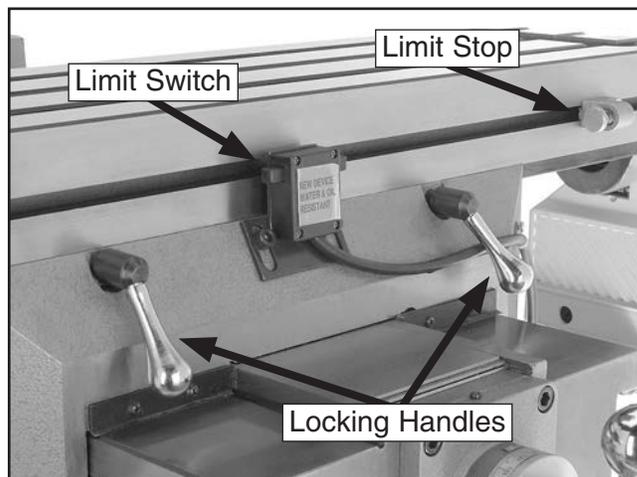

Figure 18. X-axis locking handles, limit stops, and limit switch.
1. Loosen the X-axis locking handles (see **Figure 18**).